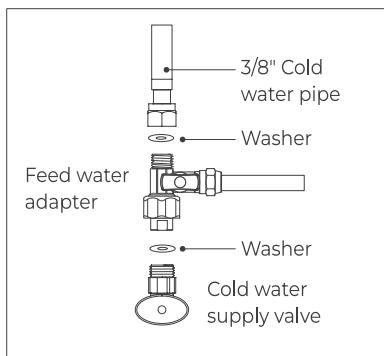

Figure 5
- c. Twist the feed water adapter onto the cold water supply valve (with its washer) and tighten it with an adjustable wrench (**Figure 5**).